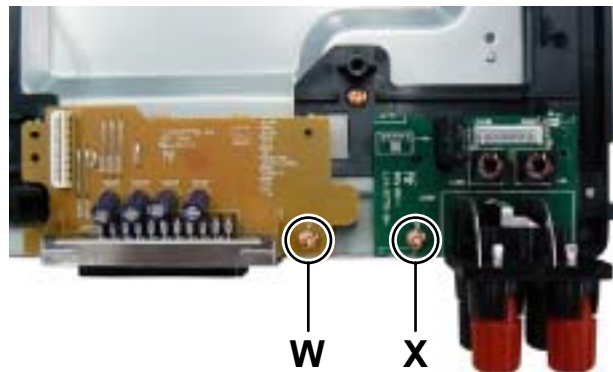

Fig.18
3.1.11 Removing the SCART board (See Fig.18)
3.1.12 Removing the Speaker terminal board (See Fig.18)